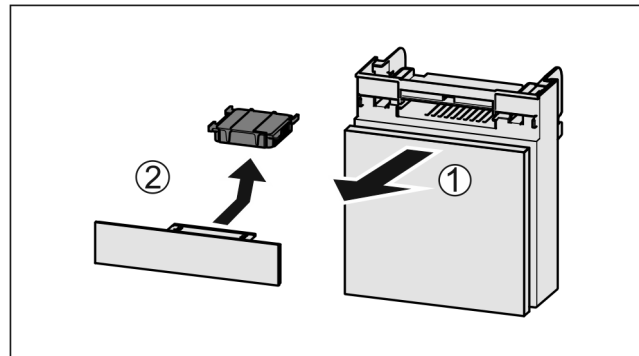

Fig. 124
- ▶ Pull out the compartment Fig. 124 (1).
- ▶ Remove the carbon filter Fig. 124 (2).